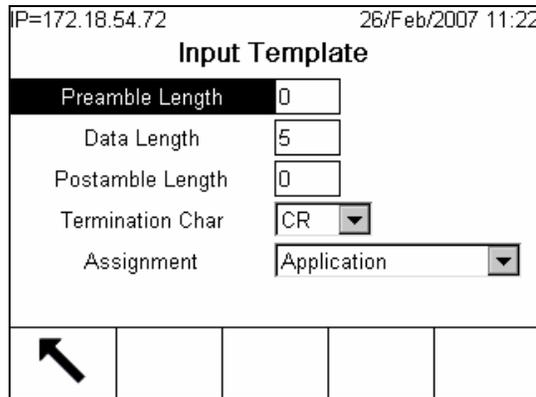

Figure 6-17: Input Template Configuration Screen
- Set the Input Template parameters for the incoming ASCII message specific to the device. The Assignment parameter must be set to Application (Figure 6-17). For more information on the Input Template setup, please see the IND780 Technical Manual, Chapter 3.0, Configuration.